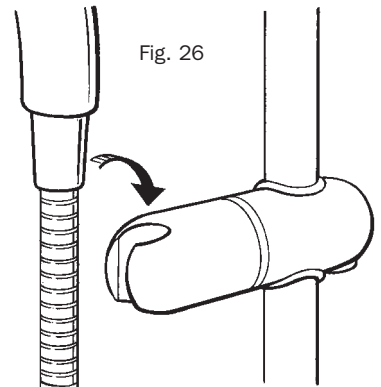

Fig. 26
3. Screw handset onto shower hose and mount into handset holder, as shown in Fig. 26. Note the slot in the handset holder is tapered to accept the conical connector on the hose.